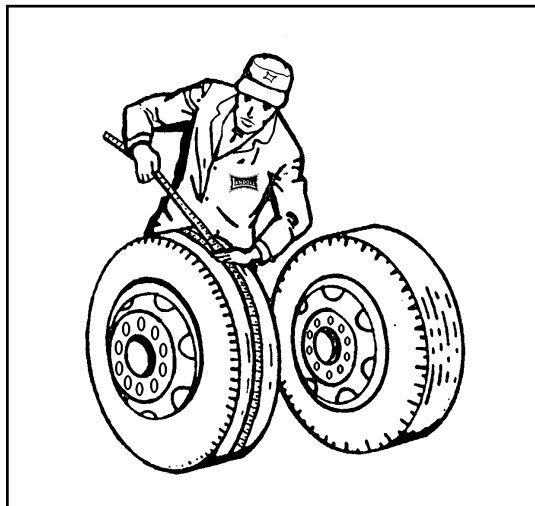

Fig. 4-17 Measuring Tape Method
- a. **Tape Measuring Method:** Measure around each tire on the tread surface. A maximum difference of 3/4" is allowed between the two mating tires of a dual (**See Figure 4-17**).